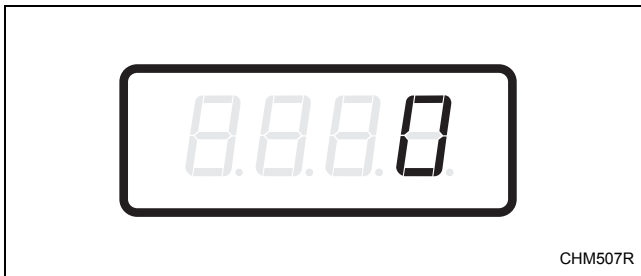

Figure 26
2. When “SA16” appears in the display, press the START (enter) keypad. There are five digits in the Special Vend A Perm Press Cold Vend Price. The fifth digit will appear in the display and will flash one (1) second on and one (1) second off. Refer to *Figure 26*.